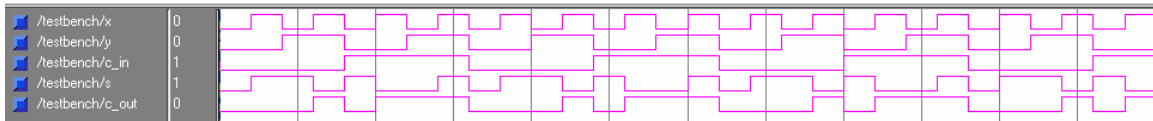

Figure 12; 1-bit wide full adder simulation.
6. Run behavioral simulation; Highlight the file full\_adder\_tb.vhd in the **Sources in Project** window, expand **ModelSim Simulator** and double click on **Simulate Behavioral Model** in the **Processes for Source** window. You should get a waveform similar to figure 12. Check it against the truth table for a half adder and make sure it complies.